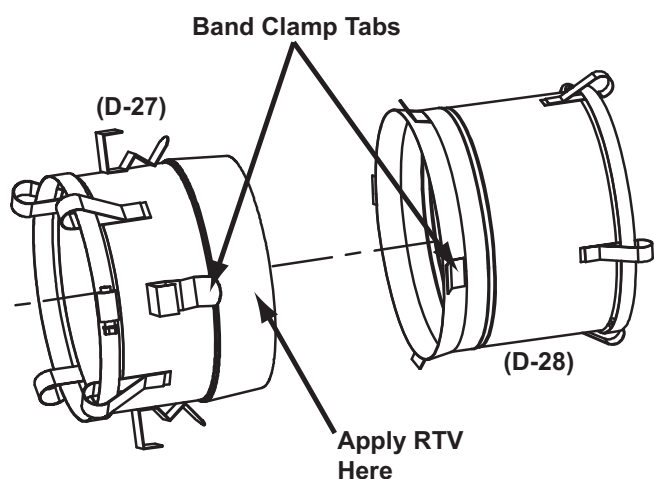

Fig. 1: Connect the CHX Vent Inlet Adapter to the Heater Vent Outlet Adapter
Typical Hi Delta connections to CHX are shown in Figures 1 through 8. Hi Temp RTV (GE 106 or equivalent) is required to seal the vents as shown in Figures 9 and 10.
1. Apply a bead of high temp RTV within approximately 1/4 in. of the edge of the CHX Vent Inlet Adapter, then assemble it to the Heater Vent Outlet Adapter ensuring that the band clamp tabs are aligned (see Fig. 1). Attach and tighten the band clamp.